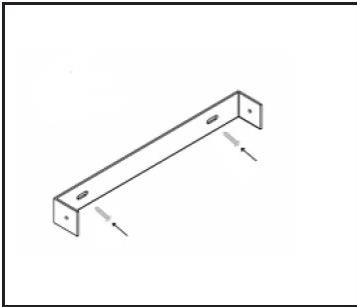

Fig. 2c
- l. Determine the desired location for mounting the duct cover bracket and secure it with the (2) screws provided. **(Fig. 2c)**